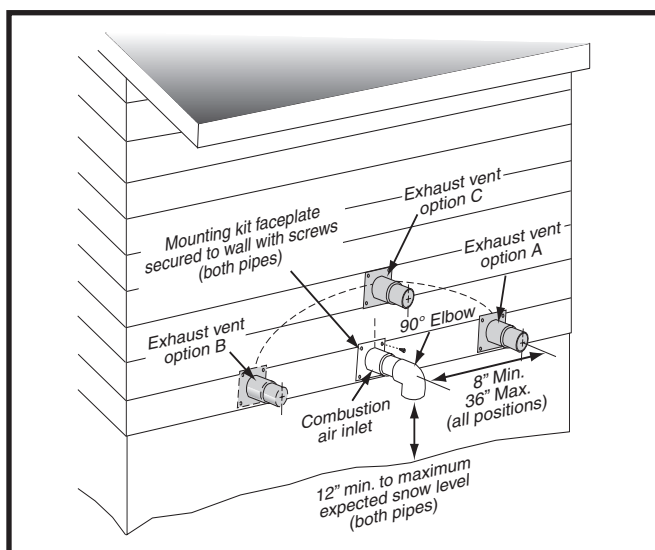
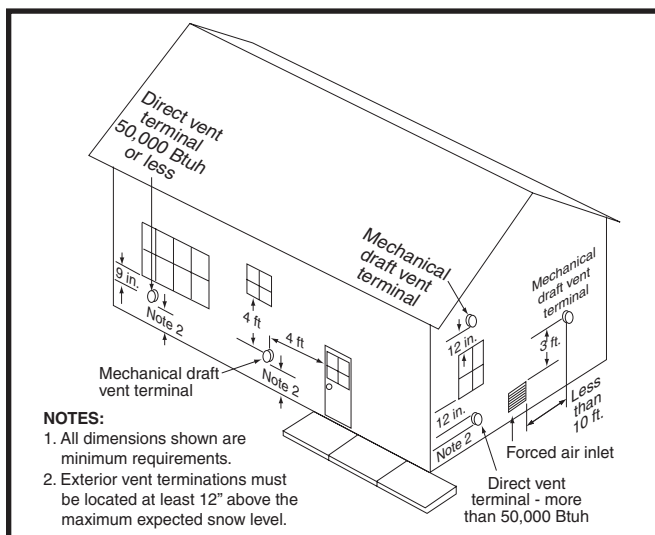
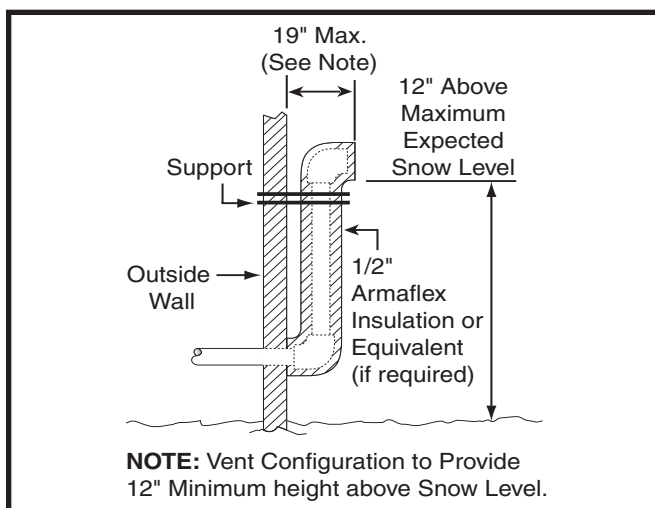
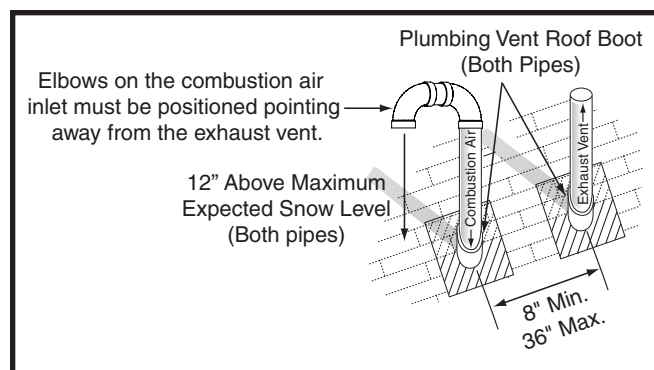

Figure 7. Inlet & Exhaust Pipe Clearances
Figure 8. Vent Locations
Figure 9. Alternate Horizontal Vent Installation
Figure 10. Vertical Vent Termination
- If a Direct Vent (2-pipe) system is used, the combustion air intake and the vent exhaust must be located in the same atmospheric pressure zone. This means both pipes must exit the building through the same portion of exterior wall or roof as shown in Figure 7, Figure 8, Figure 9, & Figure 10.
- Vent and combustion air intake terminations shall be installed as depicted in Figure 7 & Figure 8 and in accordance with these instructions:
- All minimum clearances must be maintained to protect building materials from degradation by moisture content in flue gases. When wall venting on surfaces that could be affected by this moisture, it is recommended that a corrosion resistant shield be used behind the vent terminal. Adequately seal or caulk all joints, cracks, and seams around the vent terminal. See Figure 7.
- When the vent pipe must exit an exterior wall close to the grade or expected snow level where it is not possible to obtain clearances shown in Figure 7 \(page 12\), a riser may be provided as shown in Figure 9. Insulation is required to prevent freezing of this section of pipe. See Table 3 \(page 13\) for vent freezing protection.
Termination spacing requirements from the roof and from each other are shown in Figure 10. The roof penetration must be properly flashed and waterproofed with a plumbing roof boot or equivalent flashing. Vent and combustion air piping may be installed in an
- The termination clearances shown in Figure 10 are maintained.